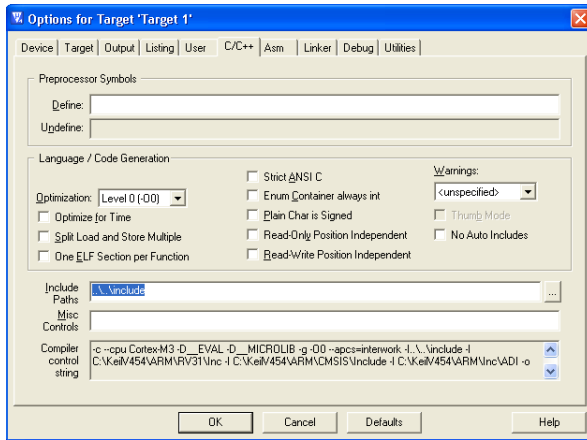

Figure 28. Options for Target Setup
10. In the **C/C++** tab, add the include path as shown in Figure 28.